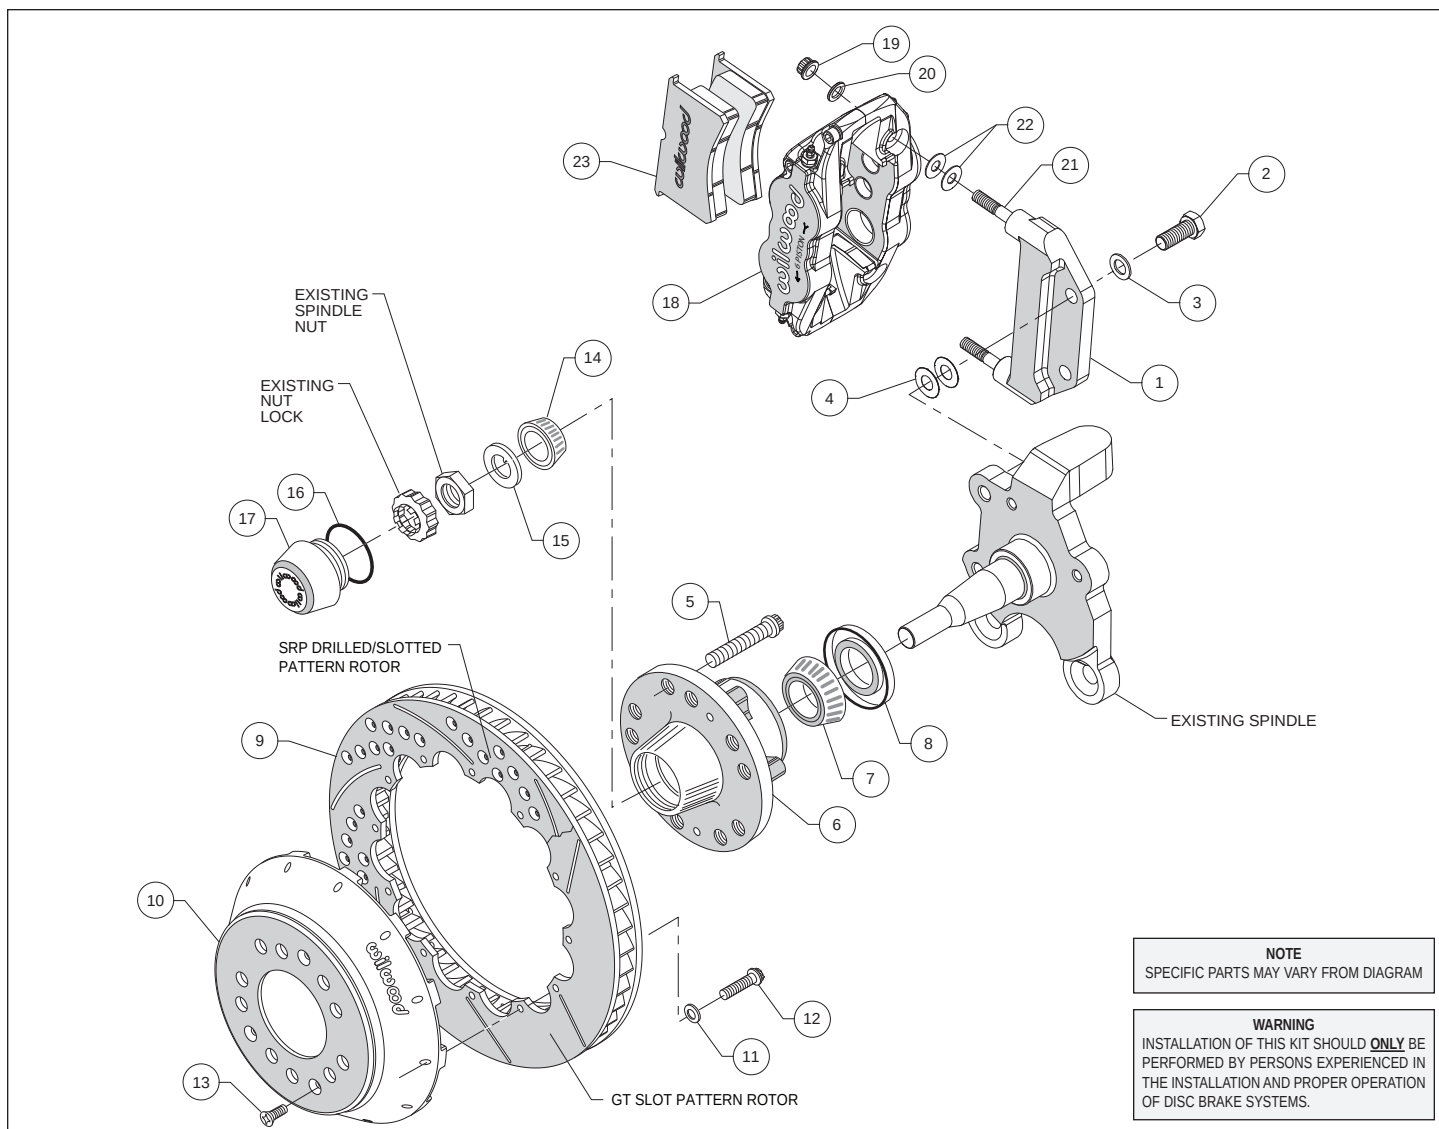
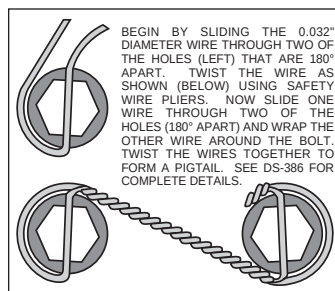

Figure 1. Typical Installation Configuration
Figure 3. Safety Wire Diagram
Assembly Instructions (numbers in parenthesis refer to the parts list on the preceding page, and Figure 1):
- The caliper mount bracket (1) should initially be installed with clean, dry threads on the mounting bolts. Orient the bracket as shown in Figure 1, and install using bolts (2) and washers (3). Initially place two .015" thick shims (4) on each bolt between the bracket and upright, Figure 1 and Photo 1. Temporarily tighten the mounting bolts. **NOTE:** *The bracket must fit squarely against the mount bosses on the upright.* Inspect for interference from casting irregularities, machining ridges, burrs, etc. Later, after the caliper alignment has been checked, the mount bolts will be secured using red *Loctite*® 271.
- Pack the large inner bearing cone (7) with high temperature disc brake bearing grease (available from your local auto parts store) and install into the backside of the hub (6), Photo 3.
- Install the grease seal (8) by pressing into the backside of the hub (6), flush with the end of the hub, Photo 3.
- Orient the rotor (9) and the hat (10) as shown in Figure 1 and Photo 4. Attach rotor to hat using bolts (12) and washers (11). Using an alternating sequence, apply red *Loctite*® 271 to the threads and torque bolts to 155 **in-lb**. For an added measure of security, the bolts may be safety wired using standard 0.032 inch diameter stainless steel safety wire as shown in Figure 3. Refer to Wilwood's data sheet DS-386 (available at www.wilwood.com/Pdf/DataSheets/ds386.pdf) for complete safety wire installation instructions.
- Slide the hat/rotor assembly (9/10) onto the hub (6) taking care to align the small countersunk holes in the hat (10) with the small threaded holes in the hub. **NOTE:** The hat must fit flush against the hub face or excessive rotor run out may result. Install three flat head screws (13) through the small holes in the hat (10), Photo 6, and torque to 85 in-lb.
- NOTE:** This kit contains distinct right and left hand calipers that must be mounted in a specific direction, as described below. Lubricate the caliper mounting studs (21) with lightweight oil. Initially place two .035" thick shims (22) on each stud between the caliper and the bracket, as shown in Figure 1 and Photo 7. Mount the caliper (18) onto the bracket (1) using lock nuts (19) and washers (20), Figure 1. Ensure that the caliper is mounted so the largest pistons are at the rotor exit end of the caliper, in relation to the direction of rotor rotation. Temporarily tighten the lock nuts and view the rotor through the top opening of the caliper. The rotor should be centered in the caliper, Photo 8. If not, adjust by adding or subtracting shims (4) between the bracket and the upright. Always use the same amount of shims on each of the two mounting bolts. Once the caliper alignment is correct, remove the bracket mounting bolts one at a time, apply red *Loctite*® 271 to the threads, and torque to 65 ft-lb.